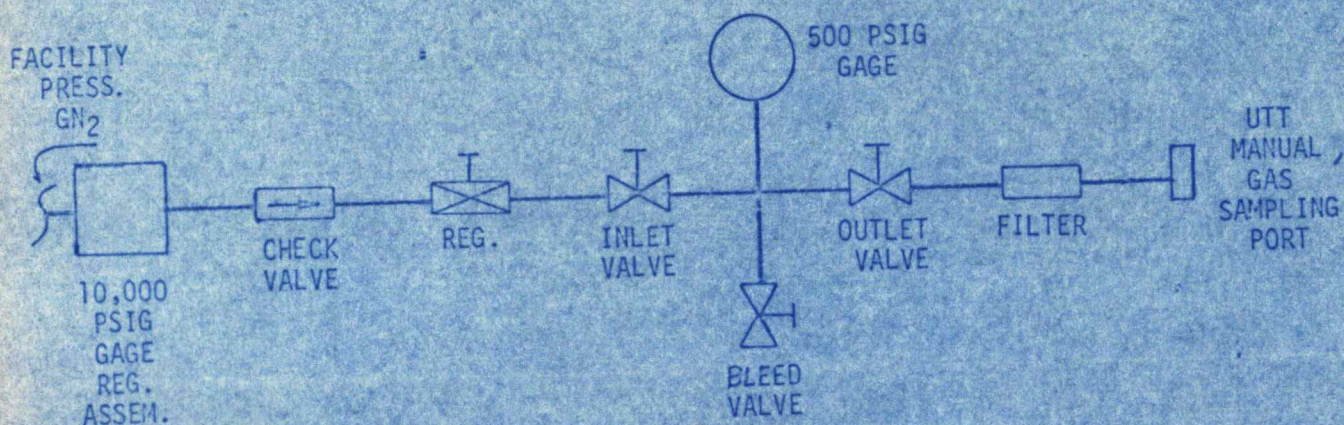

FIGURE 2. PRESSURE SETUP (SAT V)
- (F) CLOSE ISOLATION VALVE, OPEN BLEED AND TURN OFF EXTERNAL VACUUM PUMP,
- (G) REMOVE THE EXTERNAL VACUUM PUMP SETUP AND REGAP THE EMERGENCY VACUUM PUMP PORT,
- (H) CONNECT ADDITIONAL EQUIPMENT AS SHOWN IN FIGURE 2,
- (I) OPEN VH-74 AND CLOSE VH-68,
- (J) OPERATE THE TEST SETUP TO OBTAIN AN INDICATION OF 20 PSIA AT VG-10, THE STANDARD SHALL INDICATE WITHIN 19 TO 21 PSIA,
(B) FIGURE 2